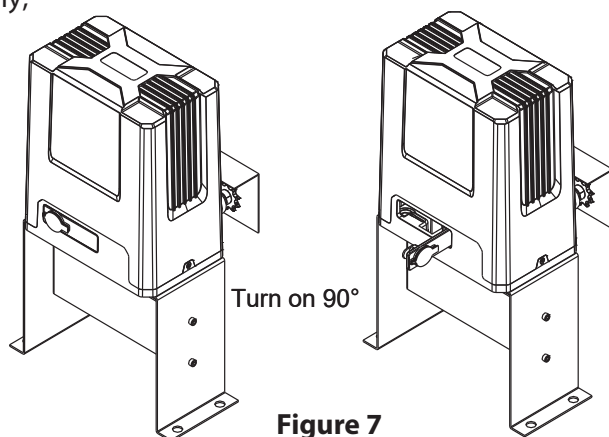

**Figure 6**
- c. Assemble the machine engine to the mounting base as shown in Figure 6;